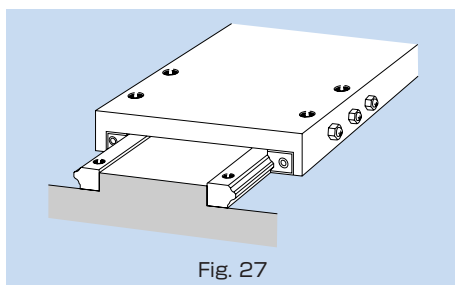

Fig. 27
- ① Remove burr from the LM rail mounting surface of the base using an oil stone.
- ② Use a small vice to press the two LM rails to the base so that they closely contact the datum planes, then tighten the mounting bolts to the recommended torque (see page a-80).
- ③ Mount the LM blocks on the table, then install them onto the LM rails. Be sure the mounting bolts for the LM blocks are temporarily tightened.
- ④ Tighten the clearance-adjustment screws alternately to adjust the clearance. If a relatively large preload is applied in order to achieve high rigidity, control the tightening torque or the rolling resistance.
- (a) It is preferable to use three clearance-adjustment screws for each LM block as shown in Fig. 27.
- ⑤ Secure each LM block by gradually tightening the two LM block mounting bolts, which have temporarily been tightened, while sliding the table.